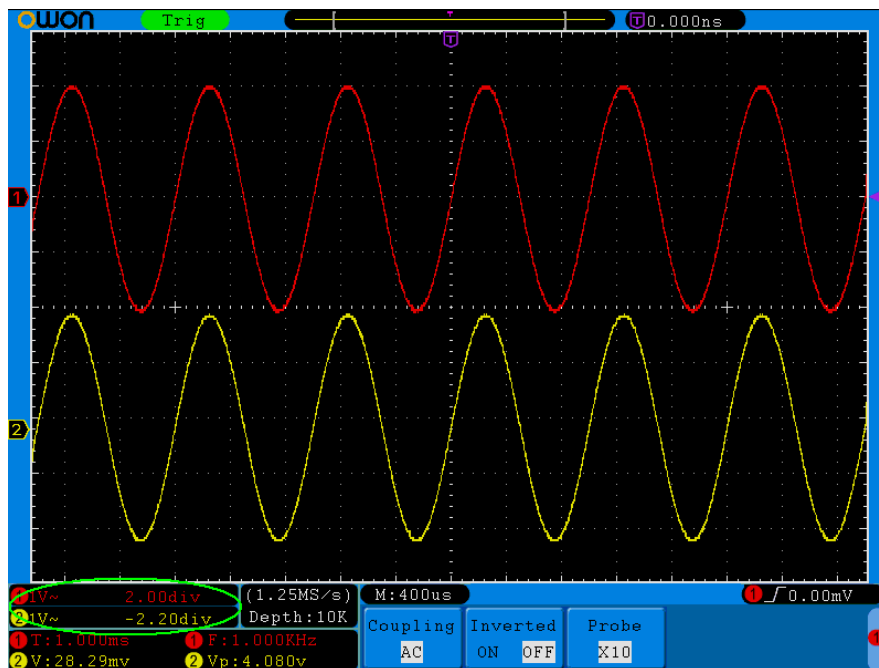

Figure 5-13 Information about Vertical Position
3. When the vertical position of the channel waveform is adjusted, the changed value is displayed at the left bottom corner of the screen (see *Figure 5-13*).